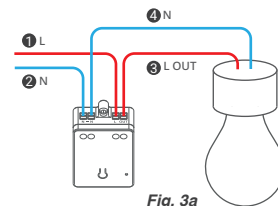

Fig. 3a
- 4 (Fig. 3a only) Connect the NEUTRAL wire from the light to the inner 'N' terminal